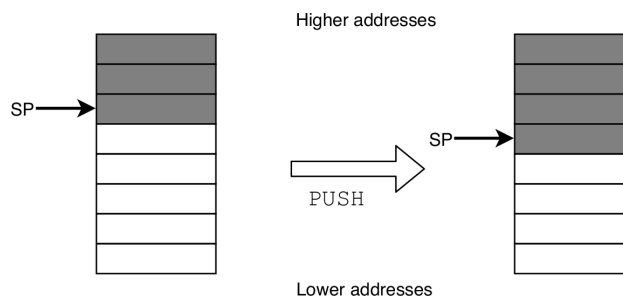

Figure 10.1: Stack push: before and after (Full Descending stack model)
It is recommended (though not compulsory) that the stack model known as “full descending” is used (figure 10.1). In this model the Stack Pointer (SP) contains the address of the last item pushed, and subsequent ‘pushes’ store data in lower-numbered addresses. This is the most widely used convention.